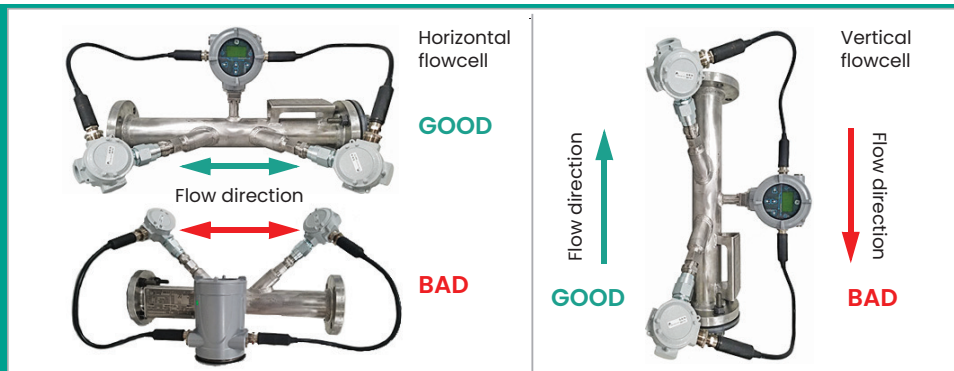

Figure 5: Good and bad flowcell/transducer orientations
- Locate the transducers on a common axial plane along the pipe. Also, locate them on the side of the pipe instead of on the top or the bottom, because the top of the pipe tends to accumulate gas and the bottom tends to accumulate sediment. Either condition will cause unwanted attenuation of the ultrasonic signals. There is no similar restriction with vertical pipes, as long as the fluid flow is upward to prevent free falling of the fluid or a less than full pipe (see figure 5).